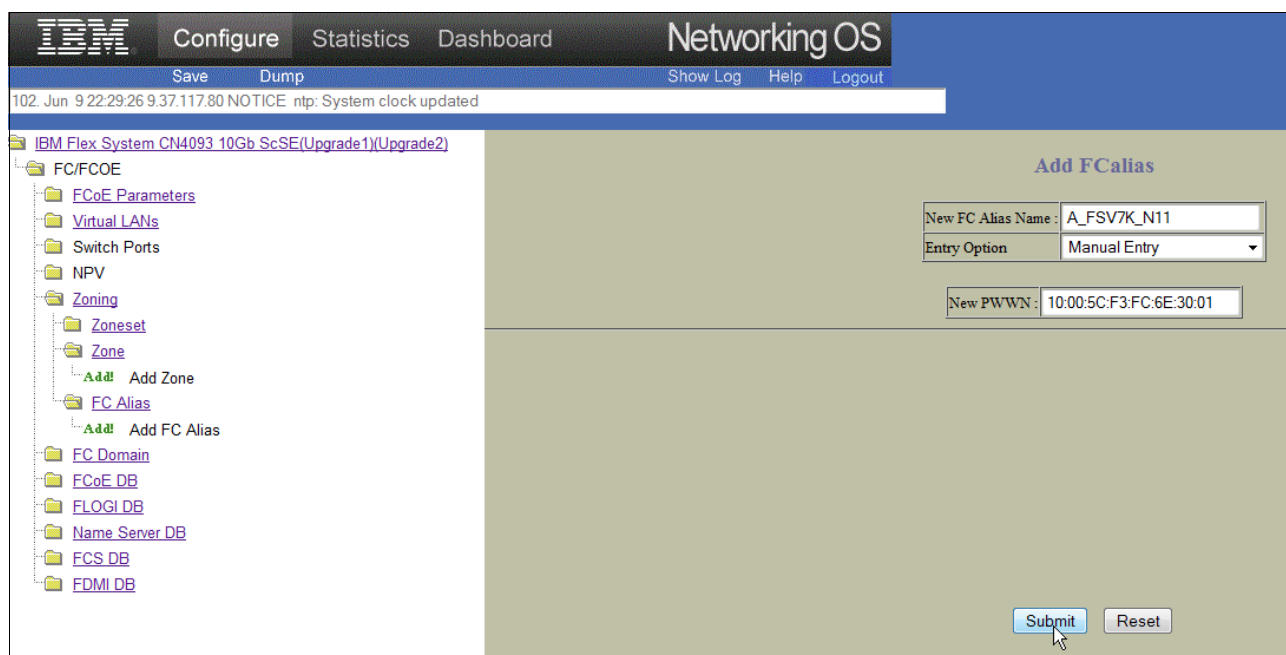

Figure 8-8 Define the name and wwpn of the new Alias
8. Add the name of the alias. In this example, it is **A\_FSV7K\_N11** and the WWPN is shown in Figure 8-8. Click **Submit**.